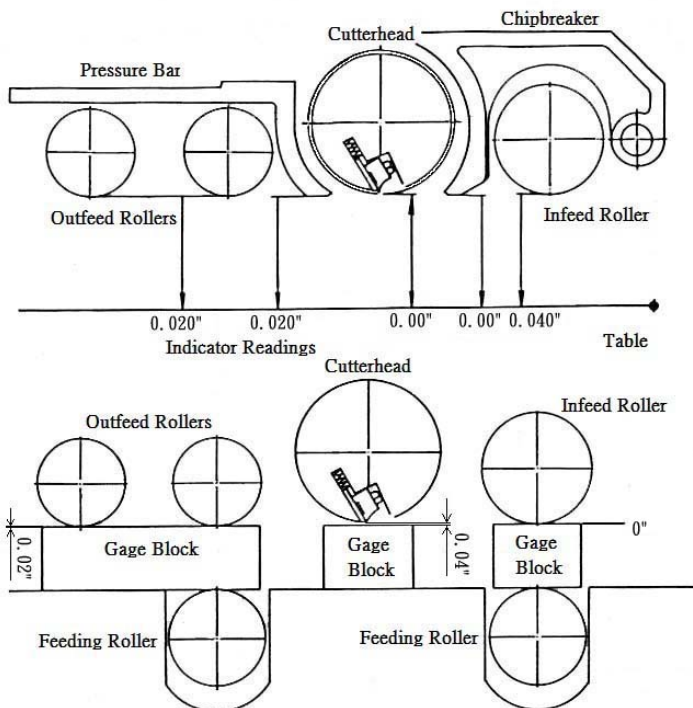

Fig. 12
3. Place a square block on the table directly underneath the cutterhead. Place a feeler gage on top of the square block. Raise the work table until the knife tip just touches the feeler gage. Do not move the work table any more until the outfeed roller is adjusted as shown in Fig. 12.